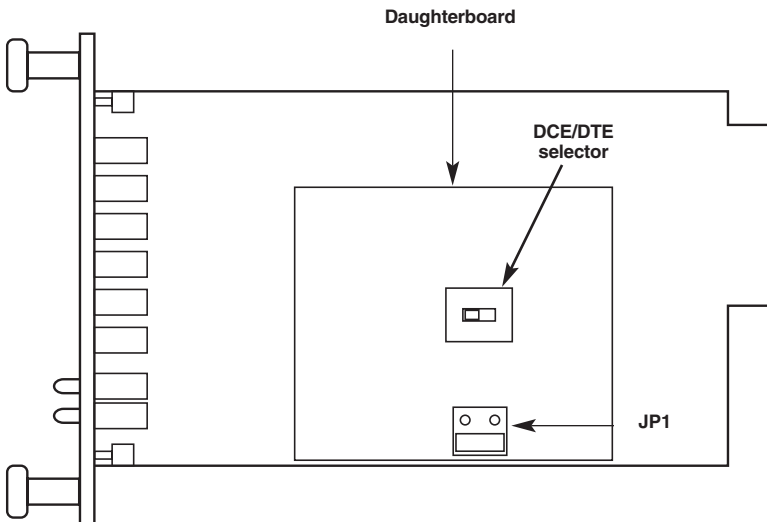

Figure 3-8. View of the X.21 daughterboard, DCE/DTE selector, and JP1.
Figure 3-8 shows the X.21 daughterboard, DCE/DTE selector, and jumper (JP1) location with respect to the rack card. Following Figure 3-8 are guidelines for the installation of the X.21 daughterboard, setting for DCE/DTE, and a brief description of Jumper JP1.
2. Install the X.21 daughterboard onto the front card with the “Front X.21” arrow pointing to the front panel of the rack card (see Figure 3-8).
The X.21 daughterboard operates at speeds up to 2.3 Mbps. When using the daughterboard at data rates of 2 Mbps or higher, clocking issues may introduce bit errors. Bit errors can also occur when long cables are used to interconnect the modem to an X.21 terminal device (router, multiplexor, etc.). To solve bit error problems due to speed and/or long cables, the X.21 daughterboard is equipped with a jumper selector (JP1) that changes the sampling edge of the transmit clock. Refer to Figure 3-8 for jumper JP1 location.
- Normal setting: The jumper shorts the two outer pins of JP1. Figure 3-8 shows the default position. This position is selected when operating at a low data rate (less than 2 Mbps) and using a short X.21 terminal cable.